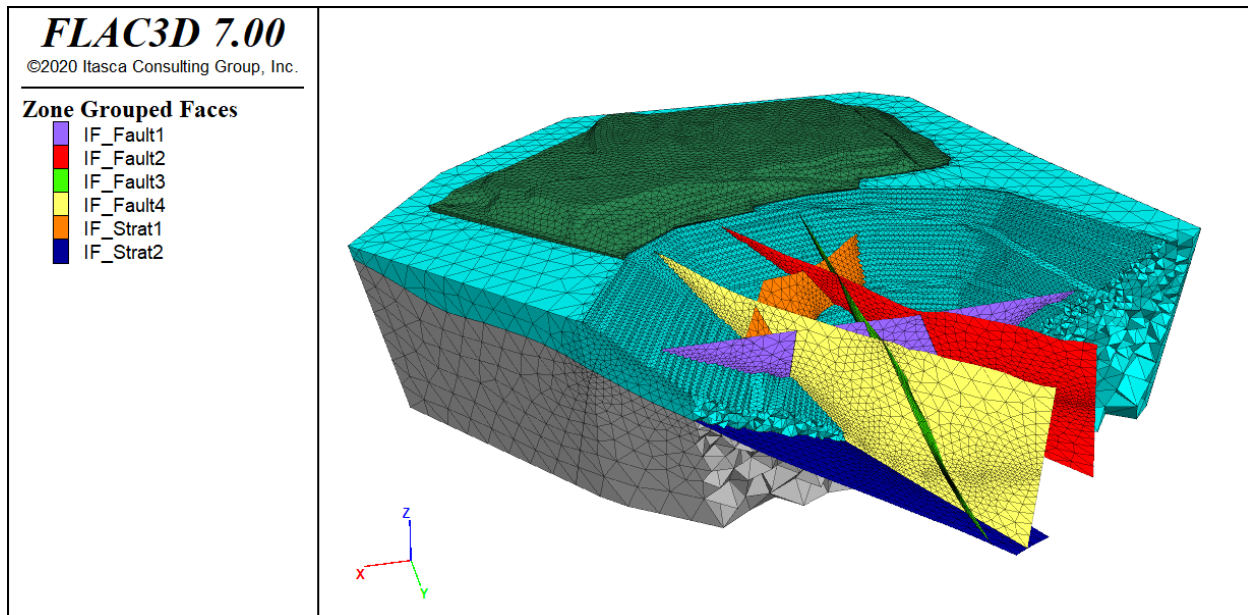

Figure 90: Tetrahedral volume mesh of open pit mine model.
37. Create a tetrahedral volume mesh in *FLAC3D* binary format. Keep all other **GVol** parameters at default values. Tetrahedral volume mesh generation is usually a fast process8, and it is used here. In case *Griddle* issues a message about the presence of naked edges, read the message and press **Yes** to continue. The final mesh is shown in Figure 90.